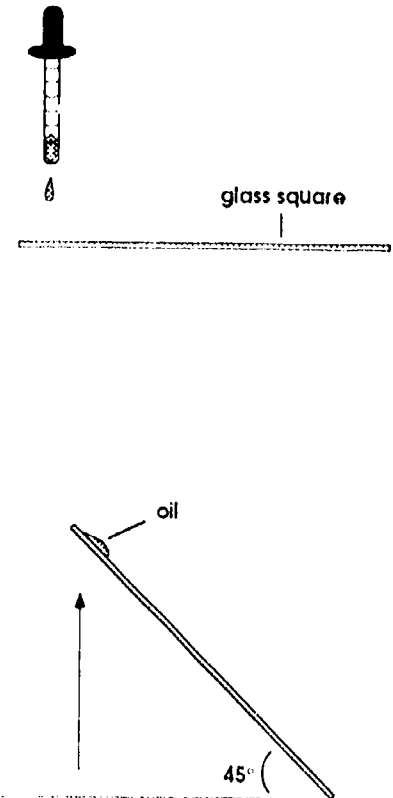

Figure 1. Drop oil on a glass square. Then tilt the square at a 45° angle.
5. Tilt the glass square at a 45° angle (see Figure 1).